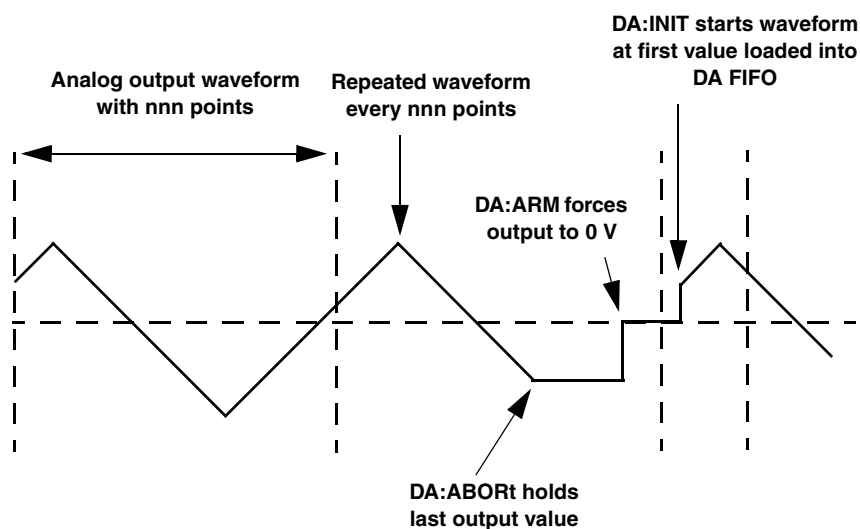

Figure 18: Abrupt Stop, Hold Last Output Value
- **Abrupt stop, hold last output value** – If you want the analog output operation to stop immediately and hold the last value that was output until the next **DA:ARM** command, as shown in Figure 18, specify the optional *DEFault* parameter for the **DA:ABORT** command or do not specify any of the optional parameters for **DA:ABORT**.